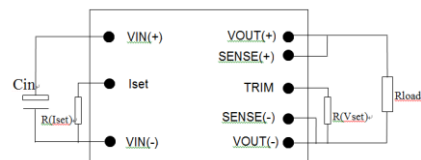

Figure 15
The output voltage can be programmed to any voltage between 0Vdc and 60Vdc by connecting one resistor, R(Vset), between the Vset(Trim) pin (9) and Vout- pin (7); See Figure 15. For a desired output voltage, the value of the resistor should be:
The maximum output current (effectively the current limit) can be reduced to any value between 0 and  $I_{max}$  by connecting one resistor, R(Iset), between the Iset pin (4) and Vin- pin (6); see Figure 15. The value of the resistor should be: